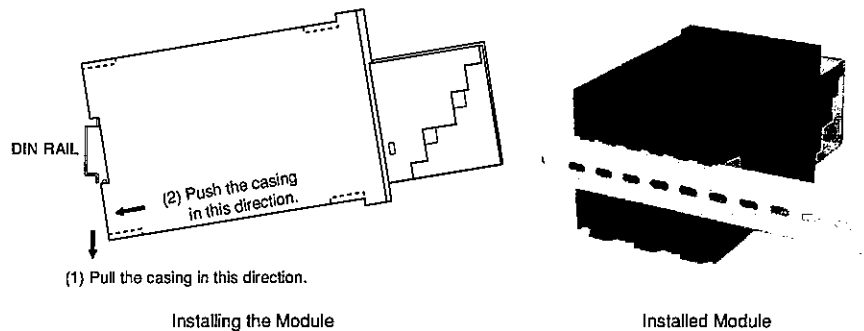

Fig.5-5
- (1) Install the module by engaging the top of the DIN rail mount indent of the rear panel of the module with the DIN rail as shown in Fig.5-5.